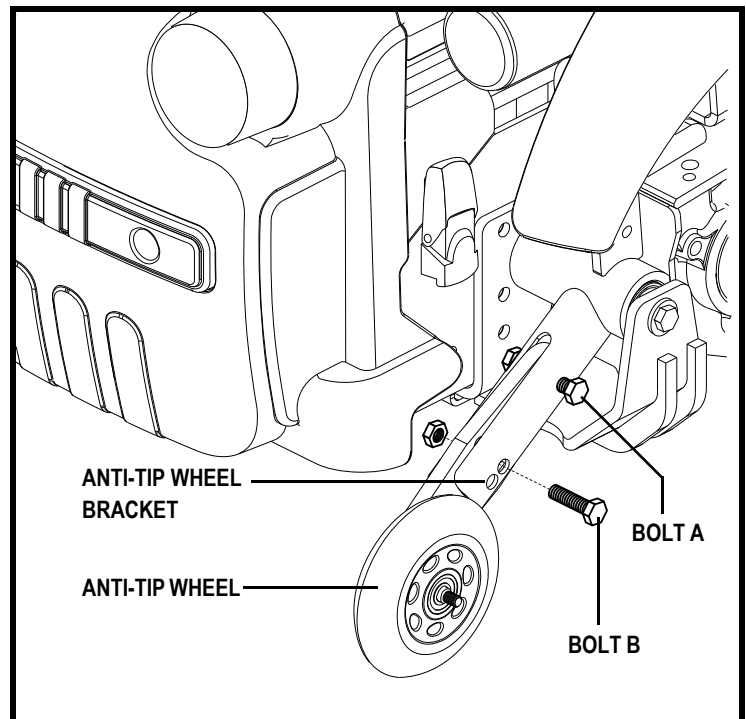

Figure 21. Anti-Tip Wheel Assembly
1. Loosen bolt A. See figure 21.
3. Raise or lower the anti-tip wheel by 0.50 in. (1.25 cm) or 1 in. (2.54 cm) increments by aligning the appropriate adjustment holes. See figure 21.